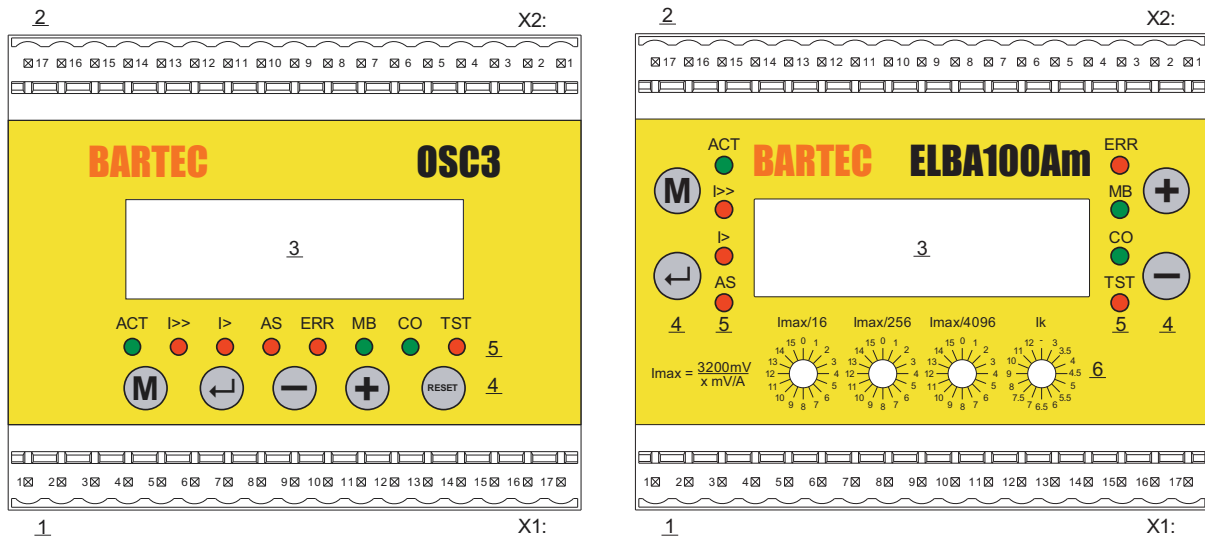

Figure 1: General view
The front part (fig. 1) of the protection includes two connectors: X1 (pos. 1) and X2 (pos. 2), LCD display (pos. 3), buttons (pos. 4), diodes informing on the device state (pos. 5) and knobs for volt-free current adjustment (pos. 6).
The main difference between the two types of devices lies in the way of setting the rated current and short circuit stage. The ELBA100Am type relay is equipped with knobs (fig. 1) for volt free adjustment of these two parameters. The first three knobs allow dividing a maximum current, which is equivalent of setting the value of the rated current. The maximum current is dependent on the ratio of the current transducers and is expressed as $3200[\text{mV}]/(x [\text{mV/A}])$, where x is the ratio of the current transducers multiplied by number of turns of wires going through the current transducer. For example ratio 5 mV/A and 2 wire turns in transducers is same as ratio 10 mV/A. The first knob allows you to split the maximum current value by 16 ($x/16$). The second divides the smallest unit of the first knob by 16 ($y/16$), which results in division of the maximum current by 256. Consequently, the third knob divides the smallest unit of the second knob by 16 ($z/16$), so the maximum current is divided by 4096. The fourth knob is used for setting short circuit stage. Menu options for these settings are read only.